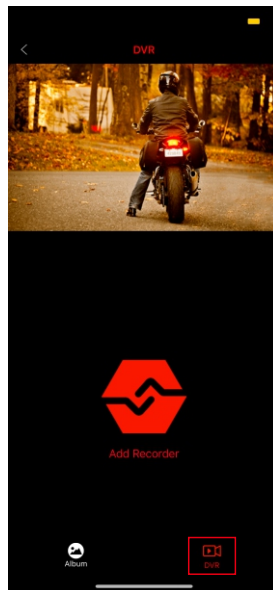

Figure7
5.4 Click [Recorder] in main page, then shift back to main page of recorder; (See Figure 7)